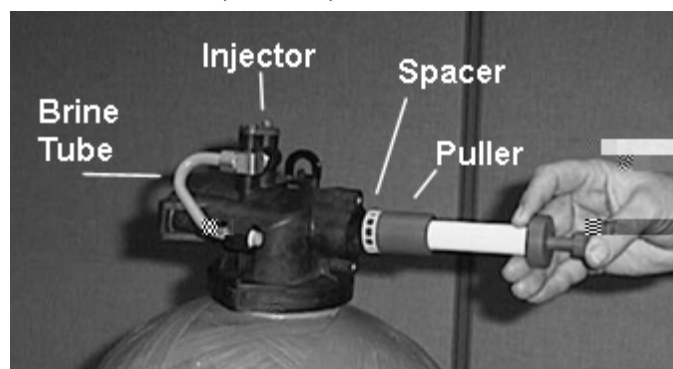

FIGURE 8
7. Remove the cap screw (N) and the cap screw (N) from the back plate. (See Figure 8.)